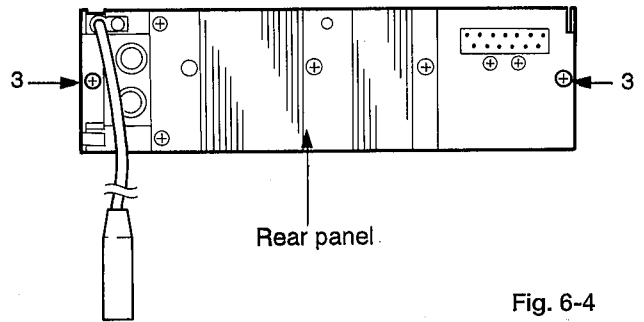

Fig. 6-4
■ **Removal of main P. C. board assembly** (Figs. 6-4, 6-5)